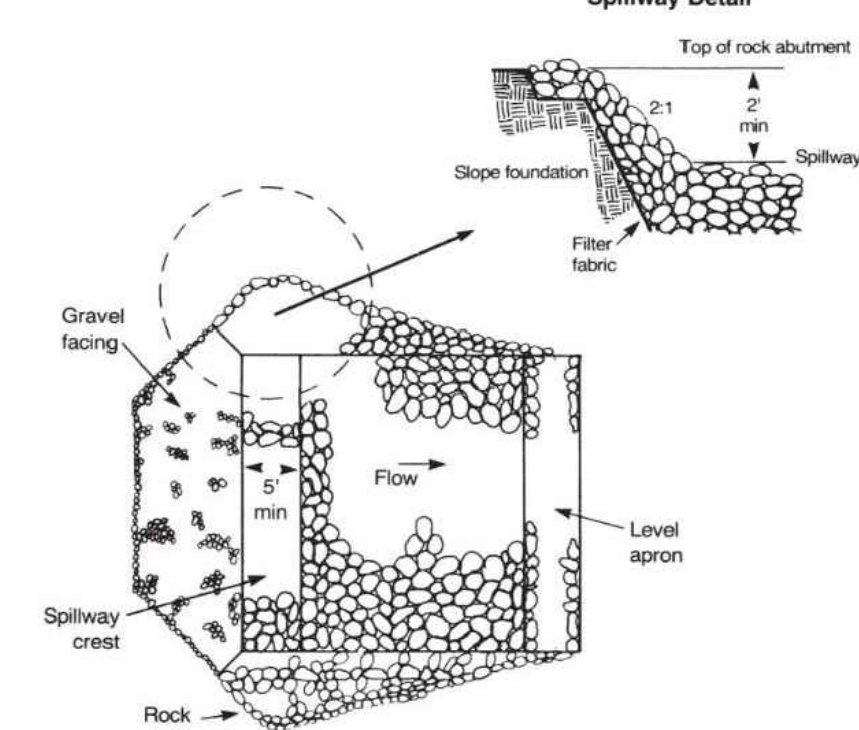

Figure 6.63c Plan view of rock dam with spillway detail.
**Embankment and Pool** Construct embankment to dimensions shown on plans. Use well-graded, hard, angular, weather-resistant rock. Rock abutments must be at least 2 ft higher than the spillway crest and at least 1 ft higher than the downstream face of dam at all points (Figure 6.63c).